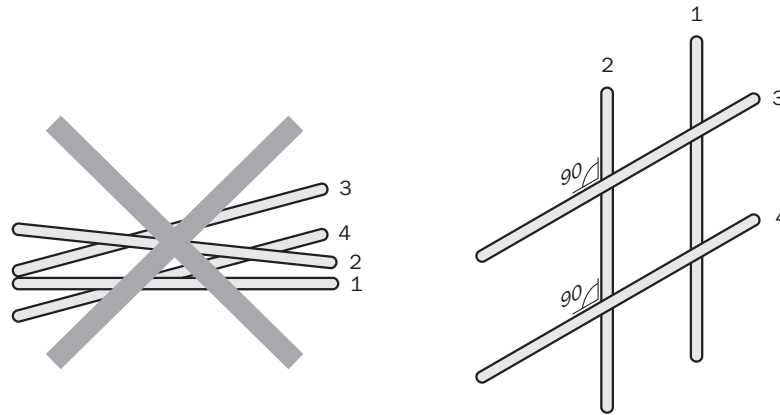

Figure 3: Cross cables at right angles
- ▷ Cables in groups 1, 2 and 3, 4 must be crossed at right angles see figure 3